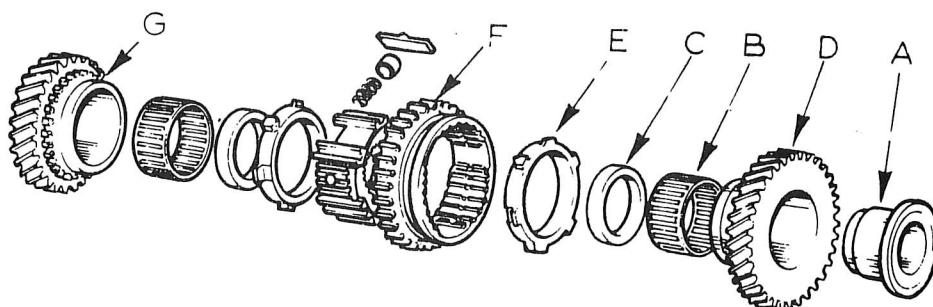

Fig. 26. 1st. AND 2nd. GEAR ASSEMBLIES
13. Remove bearing hub (A, Fig. 26.), bearing (B, Fig. 26.), hub spacer (C, Fig. 26.), 1st gear (D, Fig. 26.) baulk ring (E, Fig. 26.), 1st./2nd. synchroniser assembly, (F, Fig. 26.), the second baulk ring, the second spacer, the second bearing and 2nd. gear (G, Fig. 26.). Keep hub with its own gear.